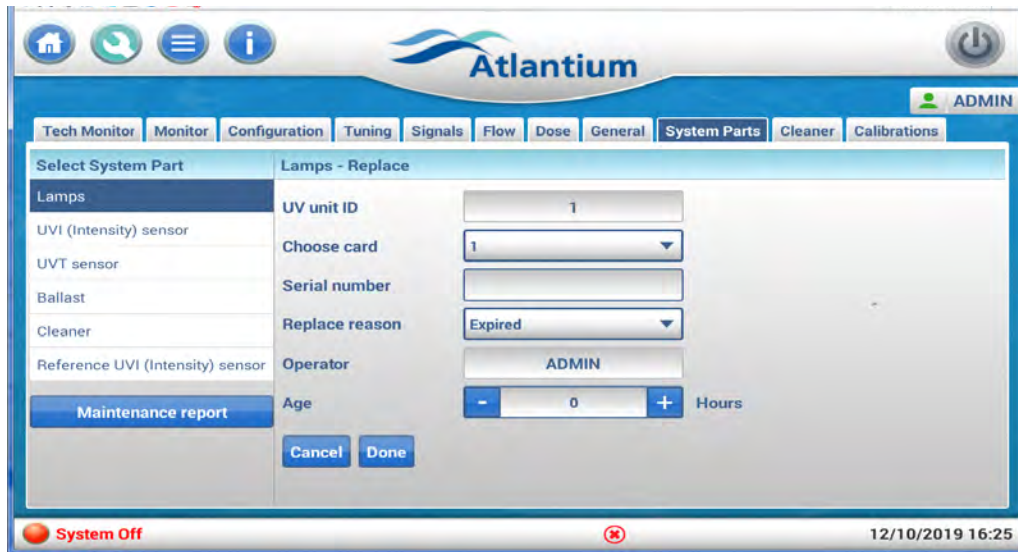

Figure 10-8: System Parts tab with Lamps selected
- Step 1.** Log in as an ADMIN user and tap on **System Parts** tab to open it (see Figure 10-8)